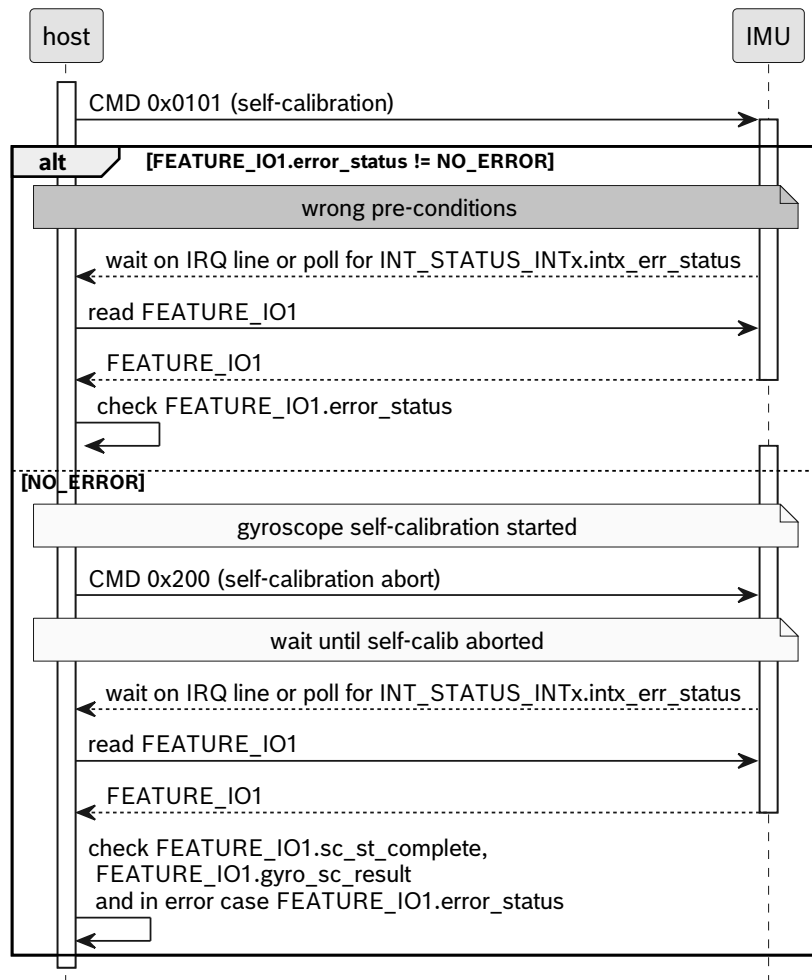

Figure 26: Self-Calibration Abortion Sequence
**Abort the Self Calibration** A running self-calibration can be aborted by sending the command 0x0200 to CMD. Then, FEATURE\_IO1.state can be checked for any state different than 0b01 and the device reports in FEATURE\_IO1.error\_status the value 0x9. The sequence to abort the self-calibration is detailed in Figure 26.